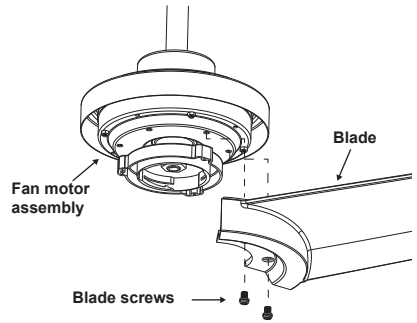

Figure 13
Step 2. Attach the blade to the fan motor assembly using two blade screws. Attach the other blades to the fan motor assembly. (Fig. 13)